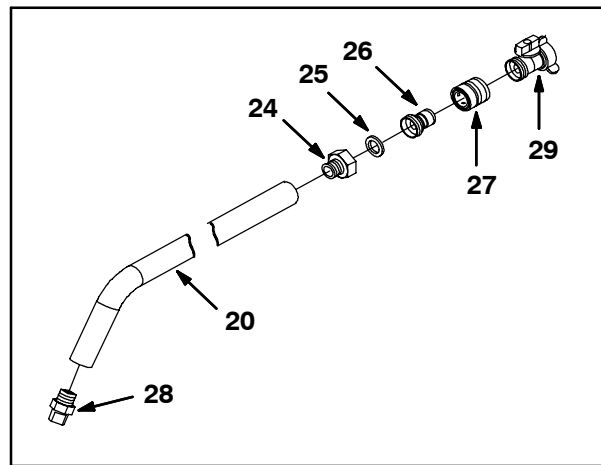

FIG. 9
29. Apply sealant onto the threads of the nozzle (28) and thread the nozzle into the wand (20). Refer to Fig. 9.
30. Apply sealant onto the threads of the straight brass fitting (24) and thread the fitting into the other end of the wand (20). Refer to Fig. 9.
31. Insert the rubber flat washer (25) into the straight brass fitting (24) installed in the previous step. Refer to Fig. 9.
32. Thread the hose nipple (26) into the spray nozzle coupling (27). Refer to Fig. 9.
33. Thread the hose nipple (26) / spray nozzle coupling (27) assembled in the previous step into the straight brass fitting (24). Refer to Fig. 9.
34. Thread the shutoff valve (29) into spray nozzle coupling (27). Refer to Fig. 9.